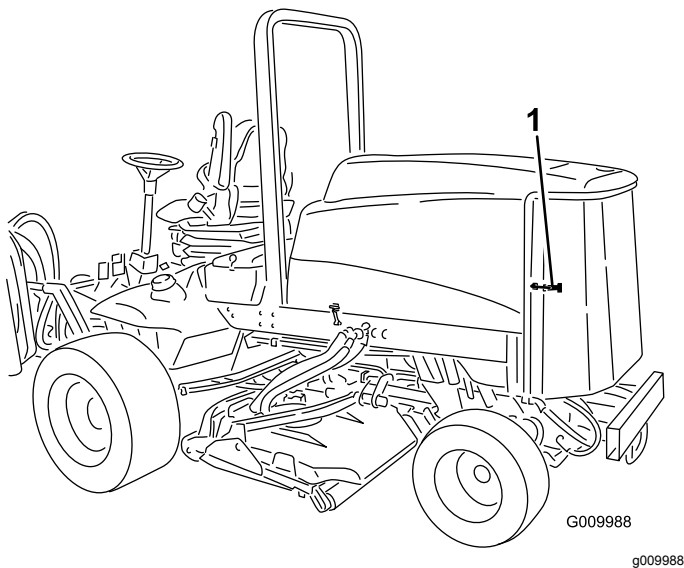

Figure 55
1. Unlatch and swing open the rear screen (Figure 55). Clean the screen thoroughly of all debris.